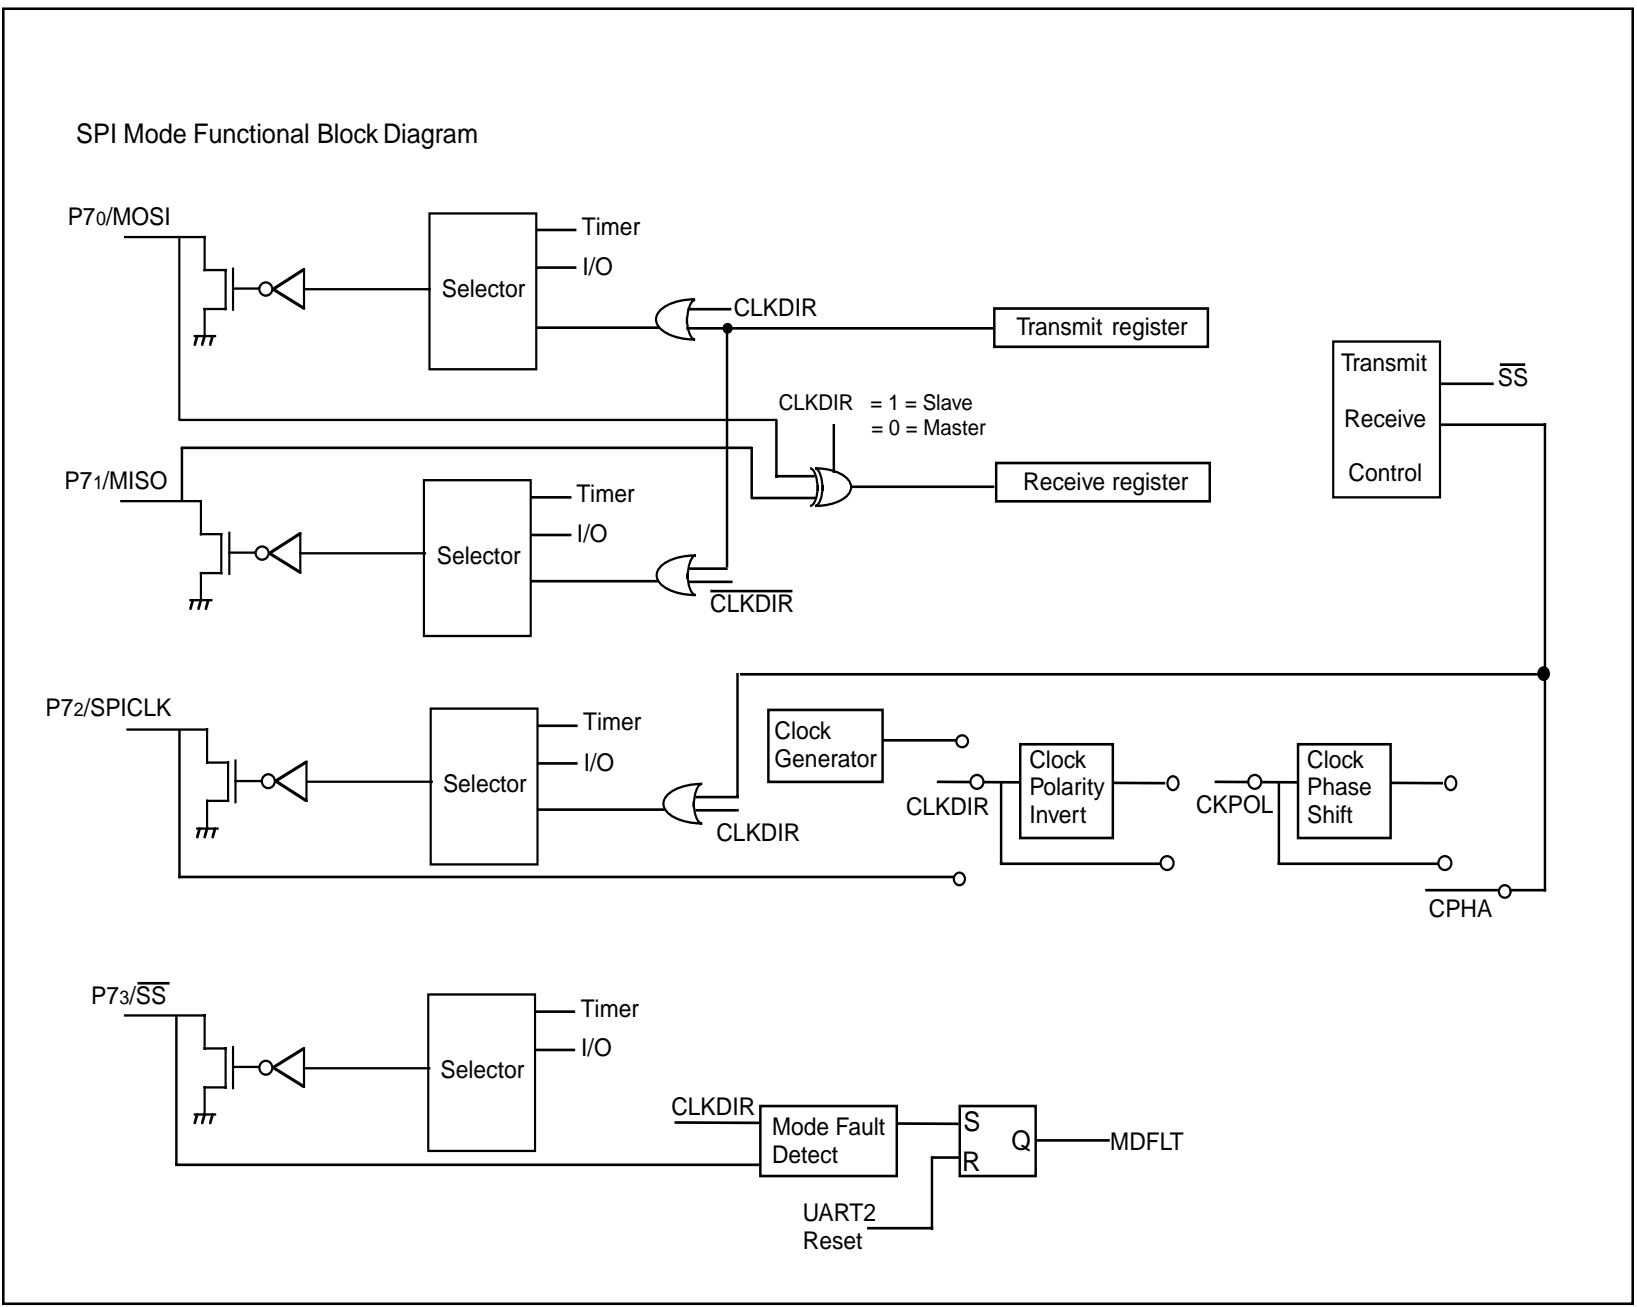

Fig. 1.112 Functional block diagram of SPI mode
- (1) An alternate clock to data relationship can be chosen with the CPHA bit (in U2SMR3). This bit can only be set when SPI bit is a "1". All four SPI clock to data formats are possible by using the CPHA bit together with the CKPOL bit (in U2C0). Figure 1.112 shows the function block diagram of SPI mode.
- (2) The RxD pin becomes the MISO pin.
- (3) The TxD pin becomes the MOSI pin.
- (4) P7[3]/ $\overline{\text{CTS}}/\overline{\text{RTS}}$  functions as the Slave Select input. This input is active low.
- (5) When configured as a master, a Mode Fault will be detected if the Slave Select input goes low. If no port pin is assigned to be a slave select input, then mode fault detection is disabled.
Select function	<ul style="list-style-type: none"> <li>LSB first or MSB first selection Whether transmission/reception begins with bit 0 (LSB) or bit 7 (MSB) can be selected.</li> <li>Function for setting an SOUTi initial value selection When using an external clock for the transfer clock, the user can choose the SOUTi pin output level during a non-transfer time. For details on how to set, see Figure 1.112.</li> </ul>